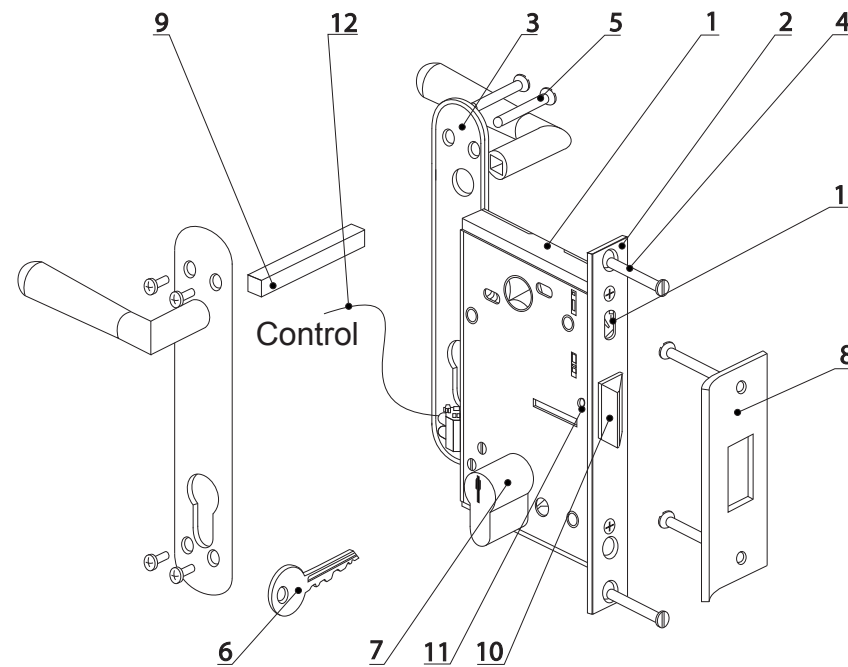

Fig. 1. LC-72.4 electromechanical lock design
Design and composition of the lock is shown in Fig. 1.
Install the lock in the following order (see Fig. 1):
- totally unscrew the screw (11) using the Allen key S=2.5 (Fig. 1);